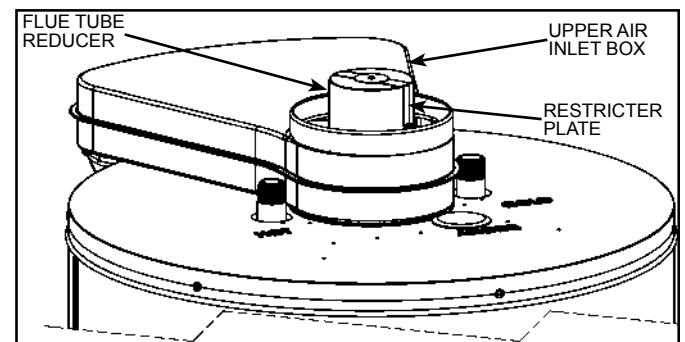
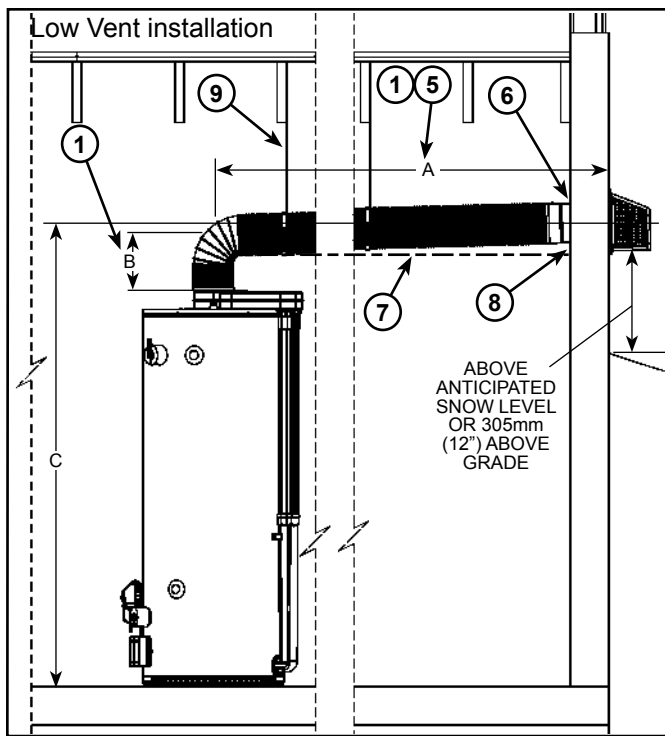
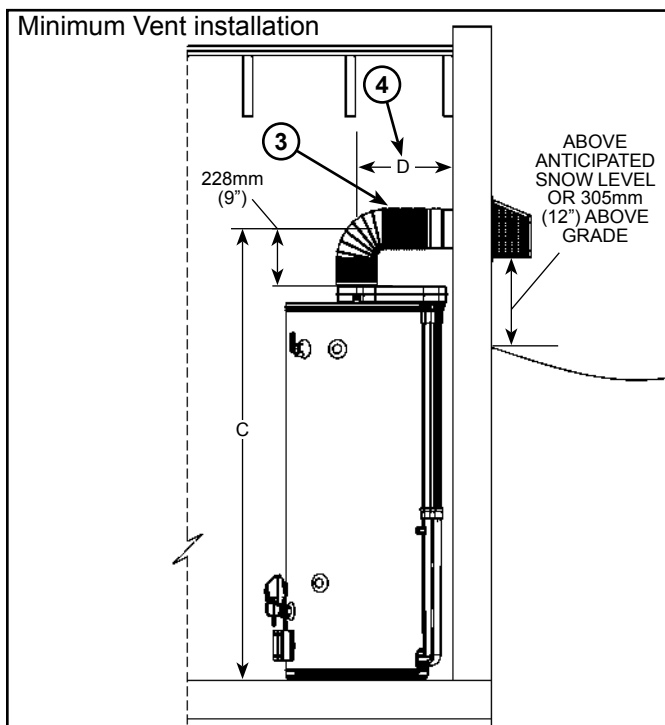
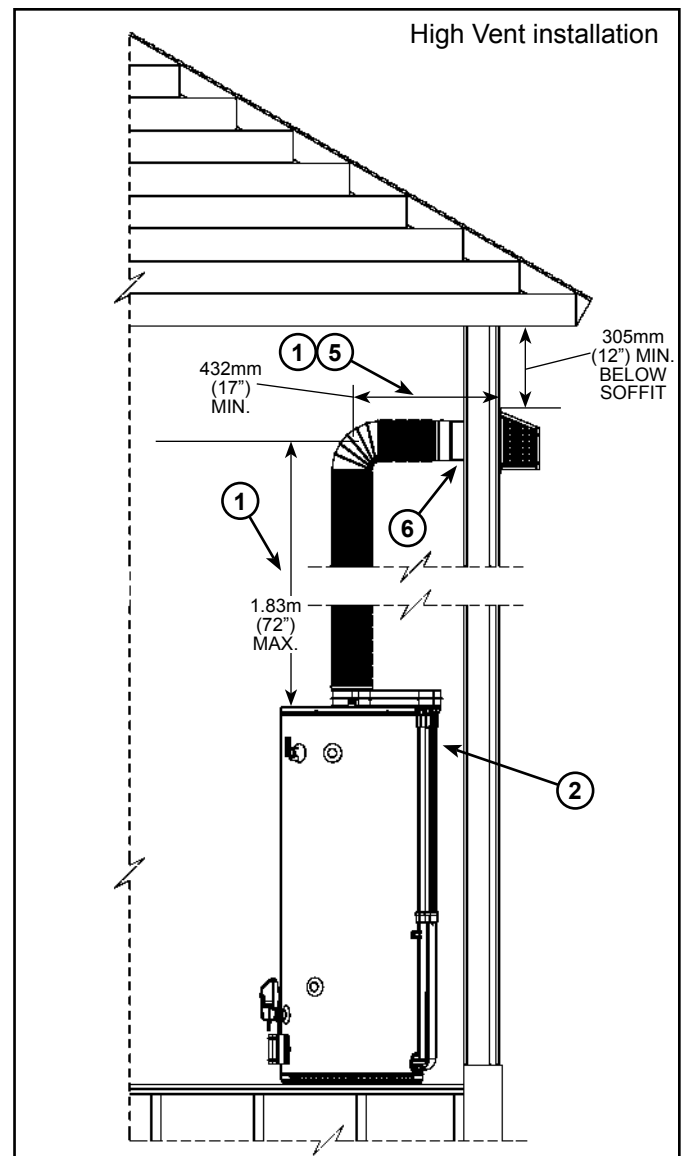

Figure 21
Figure 27
Figure 28
Figure 29
Figure 27 thru Figure 29 show various installation options.
* If the horizontal length of the venting is **less than 762mm (30")** the restrictor plate must be installed (see Figure 21, Figure 27 thru Figure 29).
The vent restricter plate (see Figure 21) is required for short horizontal runs on low vent installations (see Figure 28) and high vent installations (see Figure 29).
For short horizontal vent runs (see Figure 28) place the restricter plate over the flue tube reducer before connecting the inner corrugated tube to the flue tube reducer. **DO NOT** use the restricter plate if the horizontal run is greater than 762mm (30").
For high vertical runs use the restricter plate only when the vertical run of the venting above the heater is greater than 1.21m (48") (see Figure 29).
NOTES: (applies to Figure 27 thru Figure 29)